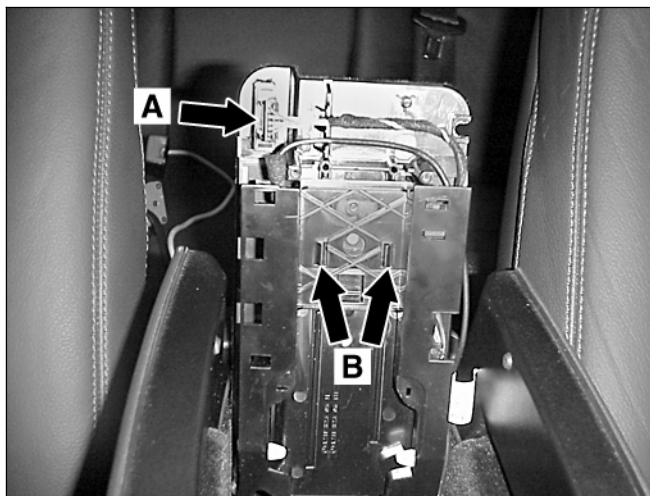

Figure 9
6. Raise the front of the false floor/base plate assembly so it stands vertically (Figure 9).
7. Disconnect the Tele Aid power cord connector (A, Figure 9).
8. Separate and remove the false floor from the base plate by pulling up on the front of the false floor, while simultaneously releasing the two clips (B, Figure 9).